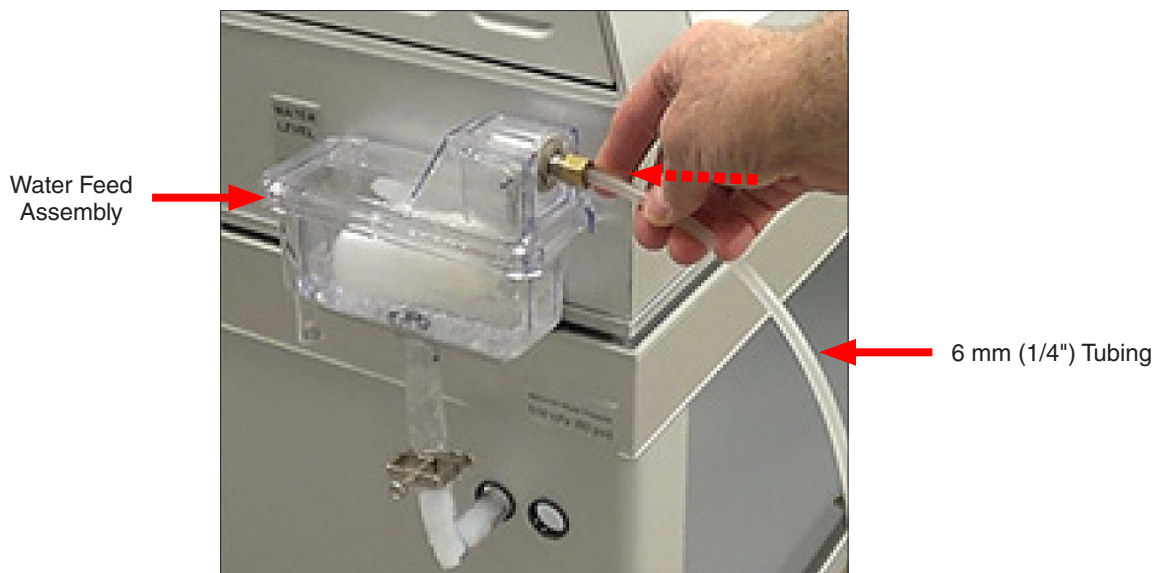

Figure 6.4b: Water supply connection.
- The water supply connects to the water feed assembly at the right rear side of the tester (Figure 6.4a and Figure 6.4b).
- Connect the water supply to the QUV water feed valve with 1/4" plastic tubing (included in CV-255-K), or 6 mm plastic tubing (included in CV-60131-K). See Figure 6.4b.